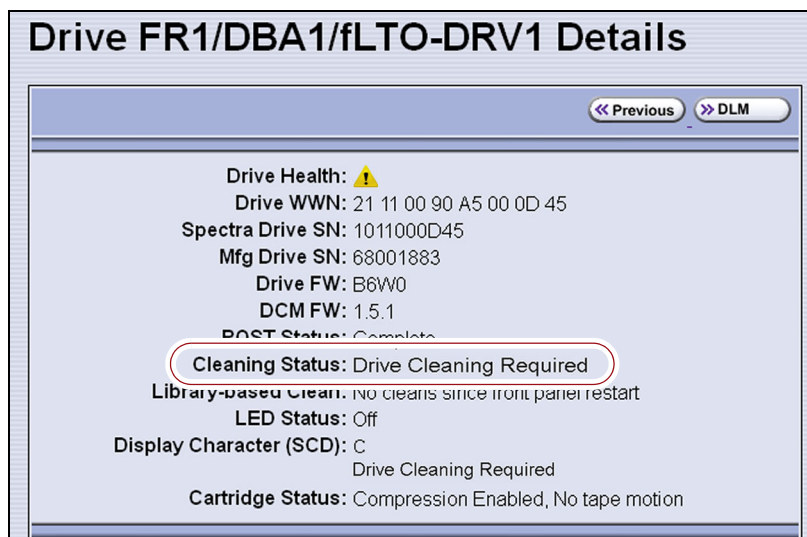

Figure 241 The Cleaning Status indicates that cleaning is required.
Overview Whenever a tape is loaded or unloaded, the read/write heads are physically cleaned by a brush located within the drive. However, after reading and writing a large amount of data (the exact amount varies by drive type and generation) or if read or write errors occur, the drive requests to be cleaned with a cleaning cartridge. The request is made by sending a Tape Alert message to the host, and displaying a **C** on the SCD for an LTO drive or **CLEAN*** on the MCD for a TS11xx technology drive. The notification is also posted to the library's Drive Details screen (Figure 241 on page 423) and the DLM drive health icon for the drive changes to yellow (see Using the Drive Health Icons on page 299 for additional information).
- The Drive Details screen indicates that the drive needs cleaning or displays a **C** on the SCD for an LTO drive or **CLEAN*** on the MCD for a TS11xx technology drive (see Figure 241 on page 423).